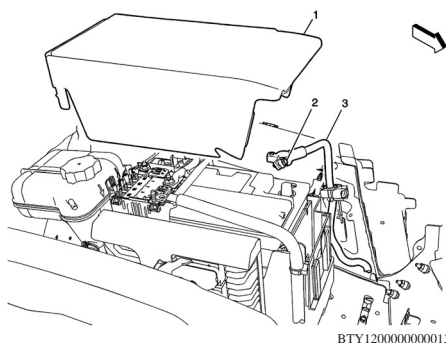

Fig. 1 Battery ground cable removal
3. Remove battery cover (1), **Fig. 1**.
4. Disconnect battery ground cable (2), **Fig. 1**.